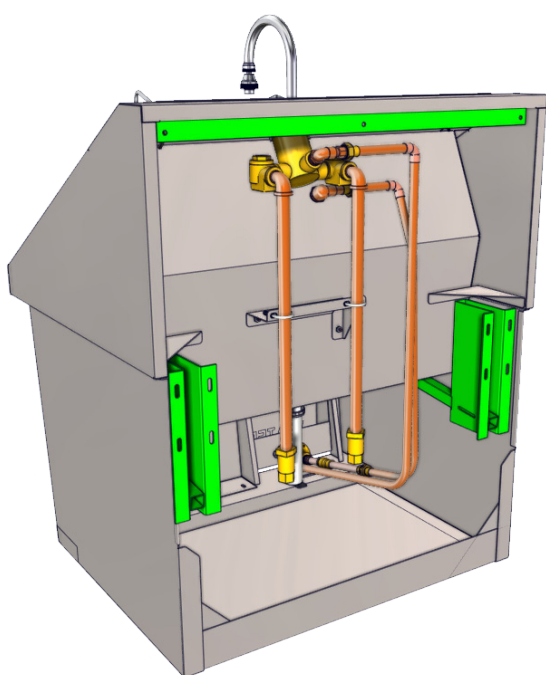
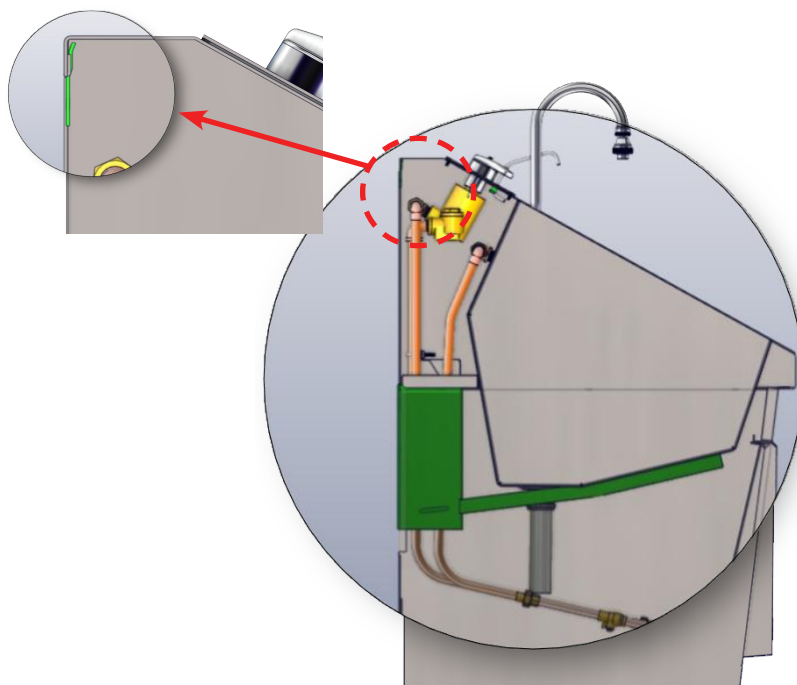

Fig. 6: Z brackets on sink
Fig. 7: Cross section showing Z bracket on sink
- A. With the help of an assistant, slide the sink over the "Z" brackets until it locks securely into place (Fig. 6 - Fig. 7, Z brackets shown in green).